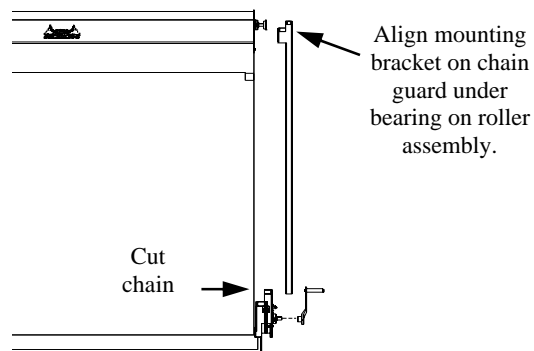
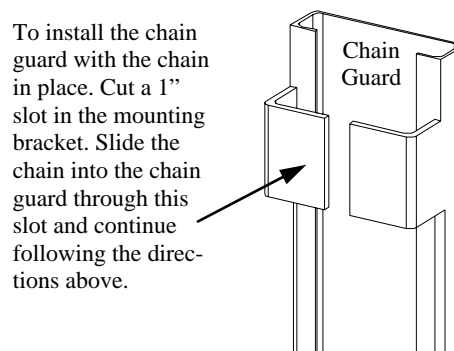

Figure 8
Figure 8b
Installing the chain guard (T). After installing the chain, you need to connect the chain guard to the gear box and the head roller assembly (Note: In order to install the chain guard with the chain already in place, you need to cut a slot in the mounting bracket on back of the chain guard. If this is not preferred, you will need to remove the chain, install the chain guard and then replace the chain, *see figure 8b*). The first step is to find the proper length for the chain guard. This is achieved by simply measuring from the bottom of the bearing on the outside of the head roller assembly to the top of the metal plate on the back of the gear box, *see figure 8*.